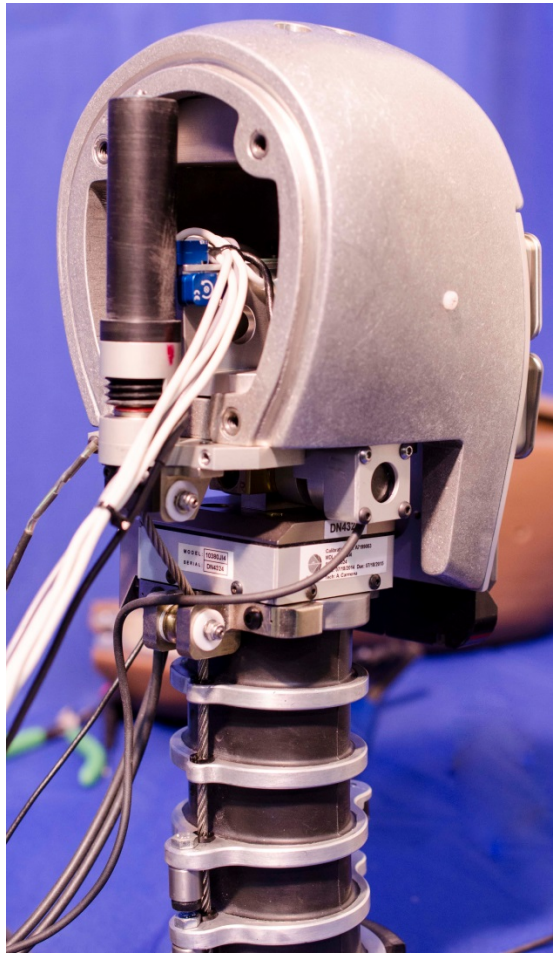

Figure 4-46. Head/neck mounting platform installed in head
- 4.2.4.1 To attach the head to the neck assembly, insert the completed Head /Neck Mounting Platform Assembly (472-2200) up through the bottom of the Head Assembly (472-1000). Tighten the four M6 x 1 x 25 FHCS from the underside of the head (Figure 4-45 and Figure 4-46).